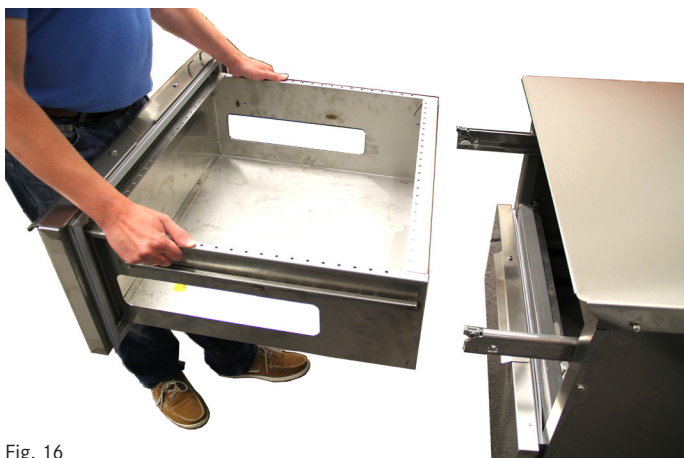

Fig. 16
4. Lift drawer front slightly, and pull forward to remove (Fig. 16). Set the drawers on a clean surface, such as a cart.